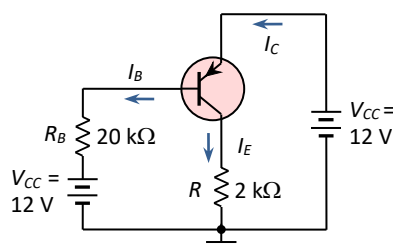

Fig. 4.42 : Circuit for Exercise no. 6
6. Repeat problem number 4 for the common-collector circuit of Fig. 4.42.